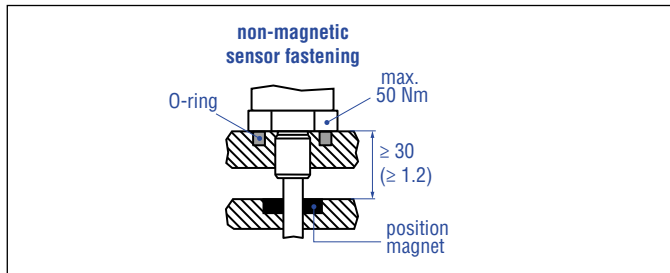

Fig. 16: Installation with magnetic material
1. A sealing by using an O-ring (e.g. 22.4x2.65 mm) in a cylinder bottom groove (fig. 16).